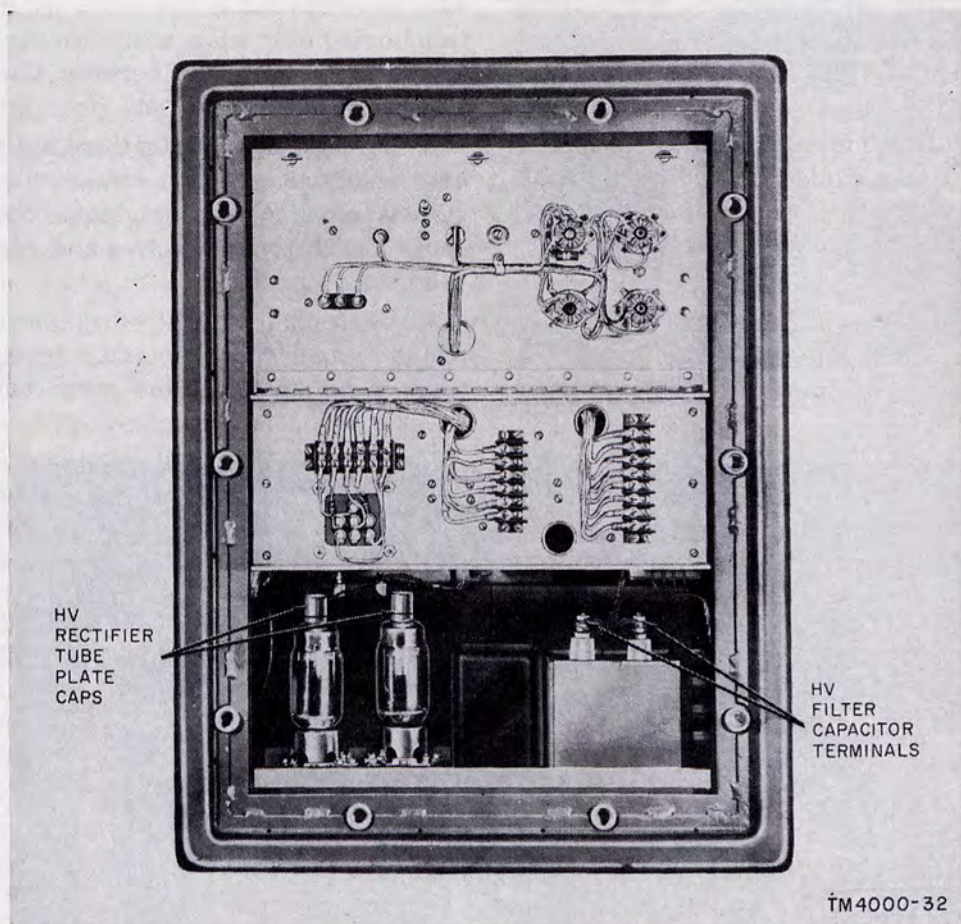

Figure 3. Transmitter power supply, showing high-voltage danger points.
c. Beneath the chassis, filament terminals on the transformer, the filament terminals of the rectifier tubes, and the components of the power supply, which includes the bleeder resistor, filter choke, and filter capacitors, are at a high dc potential. A high-voltage power supply with the filter capacitor terminals exposed is shown in figure 3.